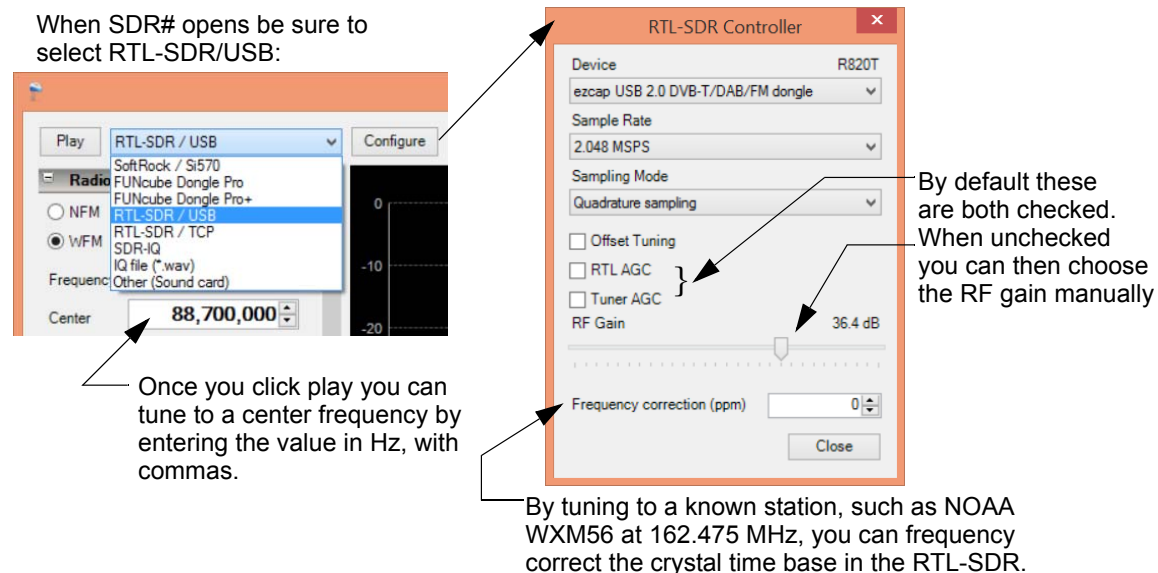

Figure 9: Setting up SDR#.
Additionally, you may notice once you start tuning to known frequencies that they are not quite located where you expect to find them. The crystal oscillator used in the RTL-SDR is not perfect. It is close. Figure 9 points out where you can make a calibration adjustment to correct for the crystal frequency errors.
- (c) Calibrate you RTL-SDR dongle to this know signal at 162.475 MHz using the Frequency correction text box described in the lower right of Figure 9. Record this value. Note if you change dongles at some point, this correction factor will likely change. The frequency error is also temperature dependent, so be sure your dongle is warm before calibrating.
- (b) Verify that as the carrier amplitude (initially 100mv) is reduced the signal gets noisy and eventually fades away. Try turning the AGC on and off (see Figure 9) and make manual gain adjustments to compensate for changes in your transmitted signal level.